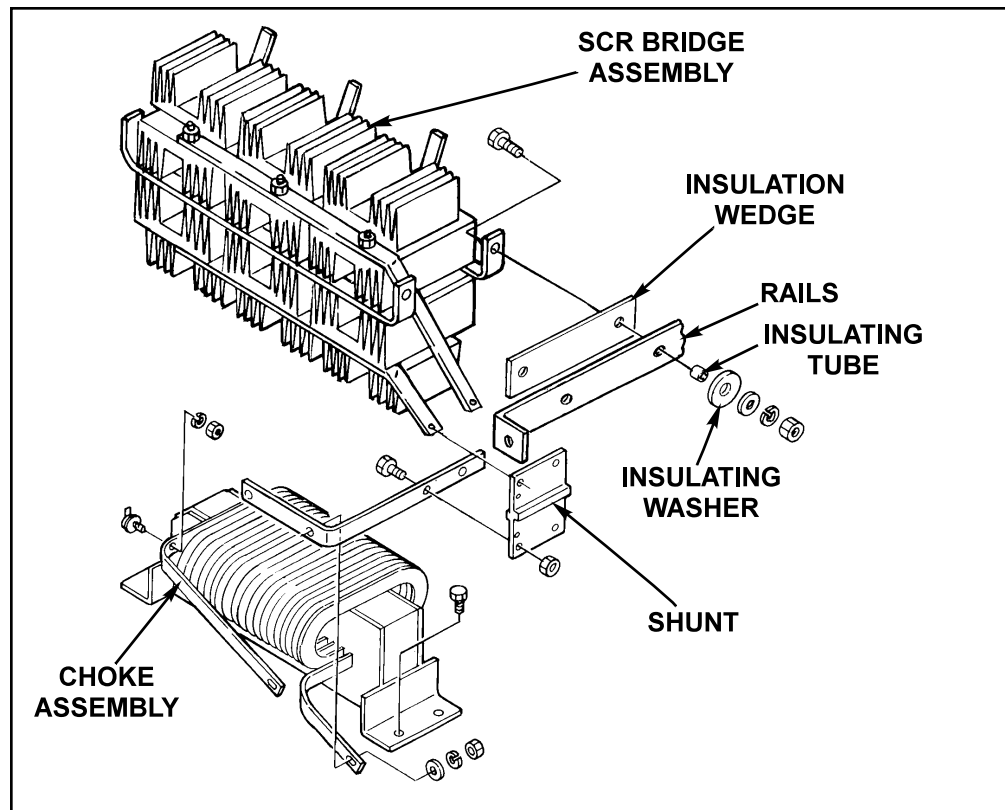

FIGURE F.23 - SCR Output Bridge Removal
11. Using a 1/2" socket wrench, remove the four screws (2 on each side) holding the transformer side panels and SCR assembly rails to the main transformer. See Figure F.23.
15. Place insulators between SCR bridge assembly and the output rectifier mounting bracket (see Figure F.23). Check for electrical isolation with an **analog** ohmmeter.
3. Place insulators between SCR bridge assembly and the output rectifier mounting bracket. See Figure F.23. Check for electrical isolation with an **analog** ohmmeter. Minimum acceptable resistance to ground is 500,000 ohms.
7. Using a 3/8" socket wrench, attach the two screws (one on each side) holding the SCR assembly rails to the front panel assembly. See Figure F-23.